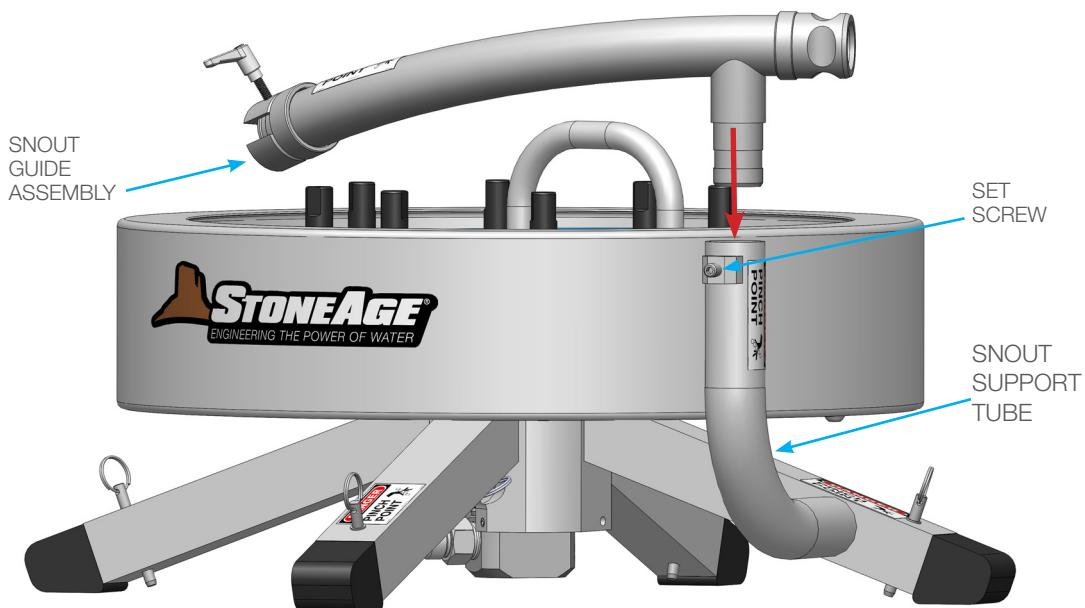

FIGURE 6
1. Loosen the Set Screw and slide the Snout Guide Assembly into the Snout Support Tube until it stops. Tighten the Set Screw and pull up on the Snout Guide to make sure it is secured. (**Figure 6**)